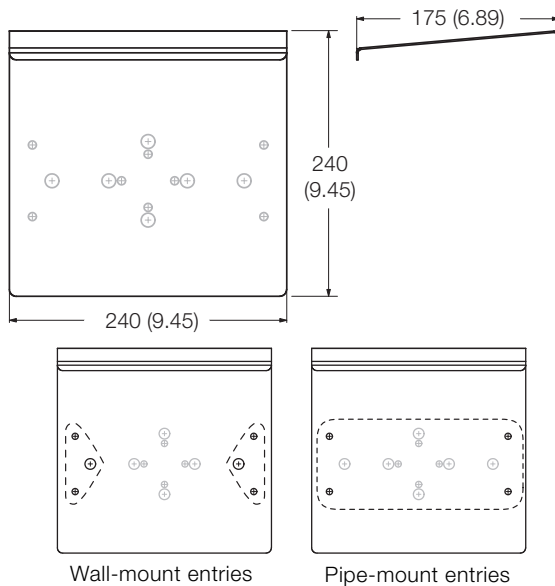

Fig. 18: Weathershield kit (pipe- and wall-mount installations)
- Weathershield kit CM40/0702 (see Fig. 18)